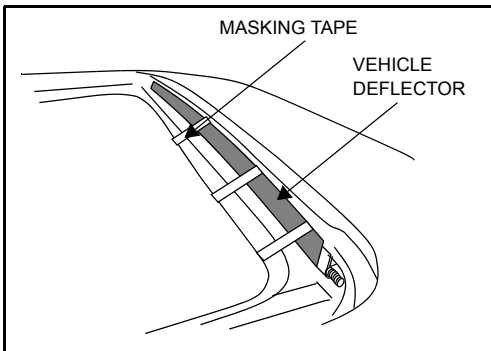

Figure 3.
3. Use masking tape to hold down the vehicle deflector during the installation. See Figure 3.